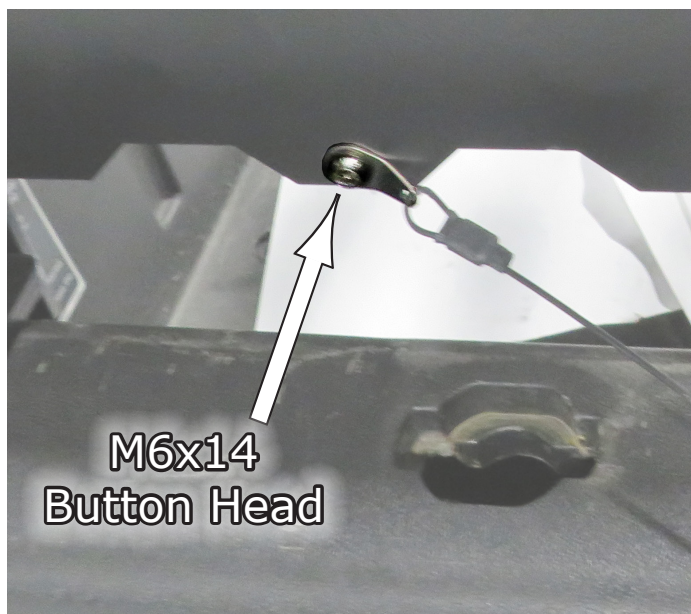

Fig.16a
16. Now you can attach the **Quick Release Pin Cable** to the rack so that its stays with the rack. Do this using the **M6x14 Button Head** screw and **M6 Nylock Nuts** provided in your kit. Repeat for the opposite side. See **Fig.16a-b**.